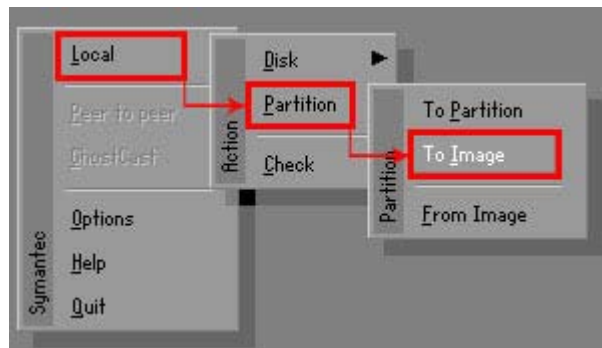

Figure B-13: Symantec Ghost Path
Step 4: Use mouse to navigate to the option shown below (Figure B-13).